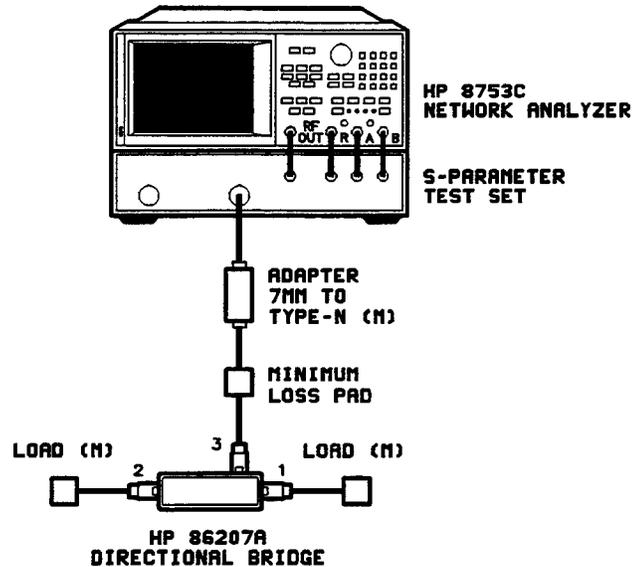

Figure 3-6. Equipment Setup for Return Loss Measurement on Port 3
15. Connect the equipment as shown in Figure 3-6 and repeat steps 11 through 14 to find the return loss on port 3.